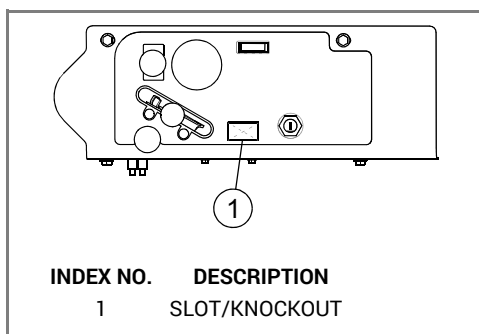

FIG. 4
9. Locate the slot next to the ignition switch in the control panel. Using the panel as a guide, cut and remove the part of the decal that covers the slot. FIG. 4